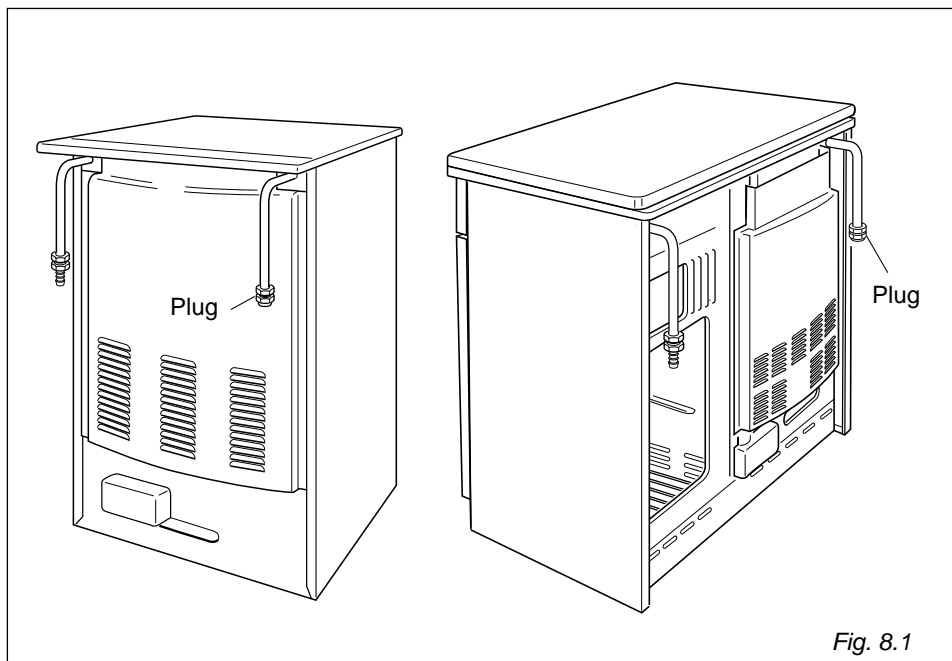

Fig. 8.1
- The connection must be executed to the rear of appliance (fig. 8.1); the pipe do not cross the cooker.